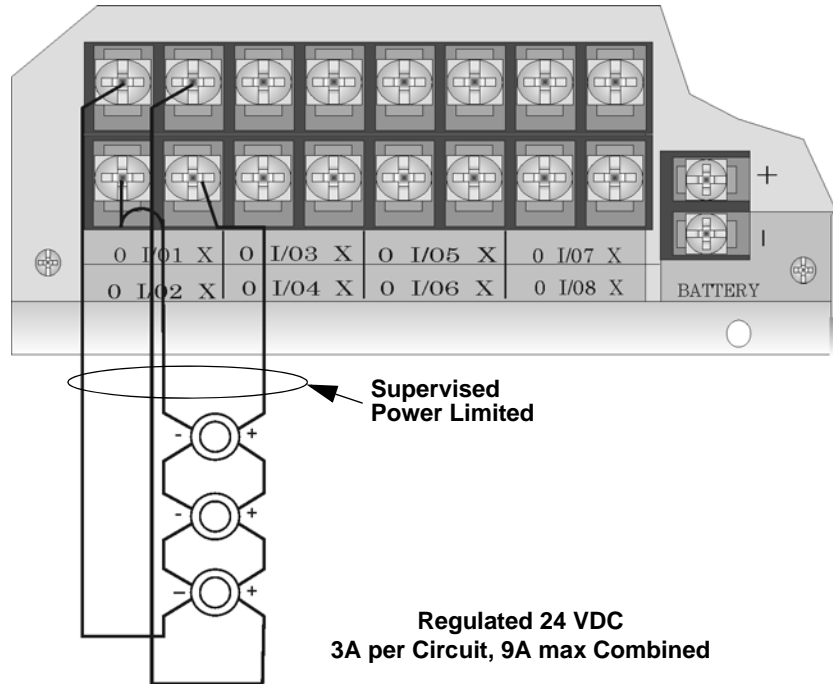

Figure 4-32 Class A Notification Appliance Circuit Configuration
1. Wire the Class A notification appliances as shown in Figure 4-32.
Note: In programming any point that uses multiple Flexput circuits, the lowest Flexput circuit number is used to refer to the circuit pair. For example, Figure 4-32 uses both Flexput circuit 1 and 2, so in programming it would be referred to as point 1.